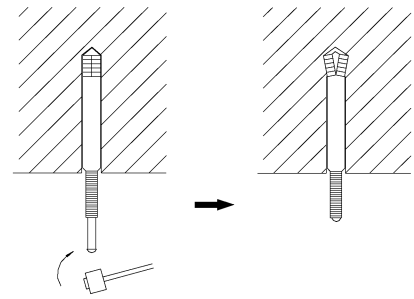

Fig.15
1. Insert the M10 inflate bolt to the hole then nail the iron nails into the bolts. The distance between holes is shown in fig.13. The install of inflate bolt is shown in fig.15.